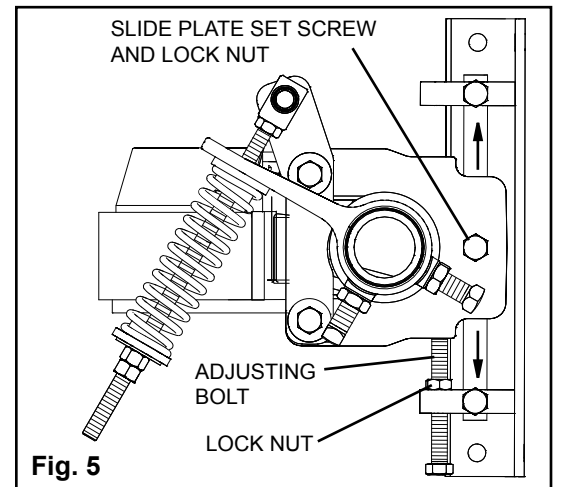

Fig. 5
- Loosen the bearing mount set screws and lock nuts. Adjustments will be made by turning the adjusting bolts either up or down (Fig. 5).